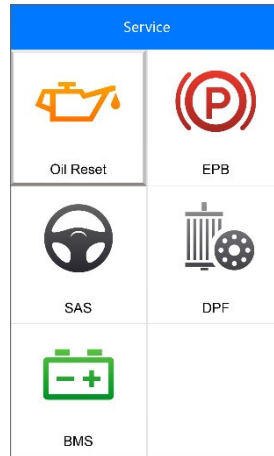

Figure 5-1 Sample Service Functions Screen
Select **Oil Reset** icon on the Service screen (Figure 5-1) and wait for the vehicle manufacturer screen. Choose the correct vehicle make.
1. Select **EPB** icon on the Service screen (*Figure 5-1*), choose **BMW** from the vehicle make screen and select the correct vehicle model to enter the **Parking Brake** menu.